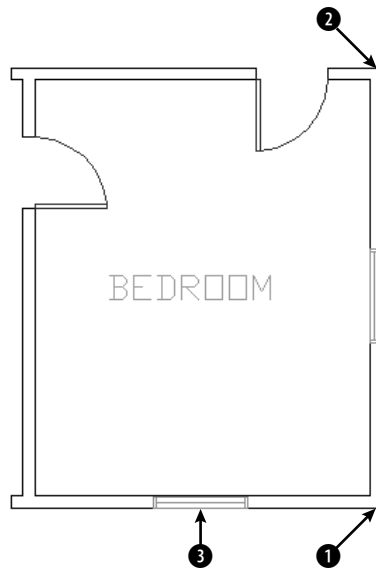

Figure 14-3: A bedroom plan.
2. Save the file as ab14-01.dwg in your AutoCAD Bible folder. This is a plan of a bedroom, as shown in Figure 14-3. ORTHO and OSNAP should be on. Set a running object snap for endpoint only. OTRACK should be off. The current layer should be set to Dim.
4.  Choose Linear from the Dimension toolbar. Because you are dimensioning the length of the room, you really want the dimension to be attached to the bottom and top horizontal lines, so that if you move those lines to make the room longer or shorter, the dimension changes. At the Specify first extension line origin or <select object>: prompt, pick ❶ in Figure 14-3, close enough to the corner to get the endpoint object snap marker. At the Specify second extension line origin: prompt, pick ❷. At the Specify dimension line location or [Mtext/Text/Angle/Horizontal/Vertical/Rotated]: prompt, move the cursor to the right until you have sufficient space for the dimension text and click.
5. Repeat the DIMLINEAR command. At the Specify first extension line origin or <select object>: prompt, press Enter. At the Select object to dimension: prompt, pick ❸ (the window) in Figure 14-3. At the Specify dimension line location or [Mtext/Text/Angle/Horizontal/Vertical/Rotated]: prompt, move the cursor down until you have sufficient space for the dimension text and click.